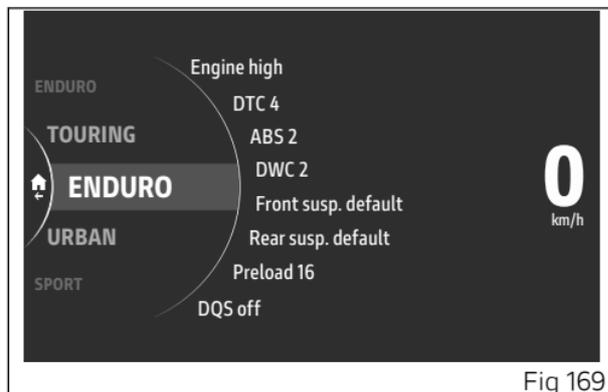

Fig 169
- System opens the specific page (Fig 169) from which it is possible to scroll the available Riding Mode and view their parameters, together with the relevant settings, by means of joystick ▲ ▼.